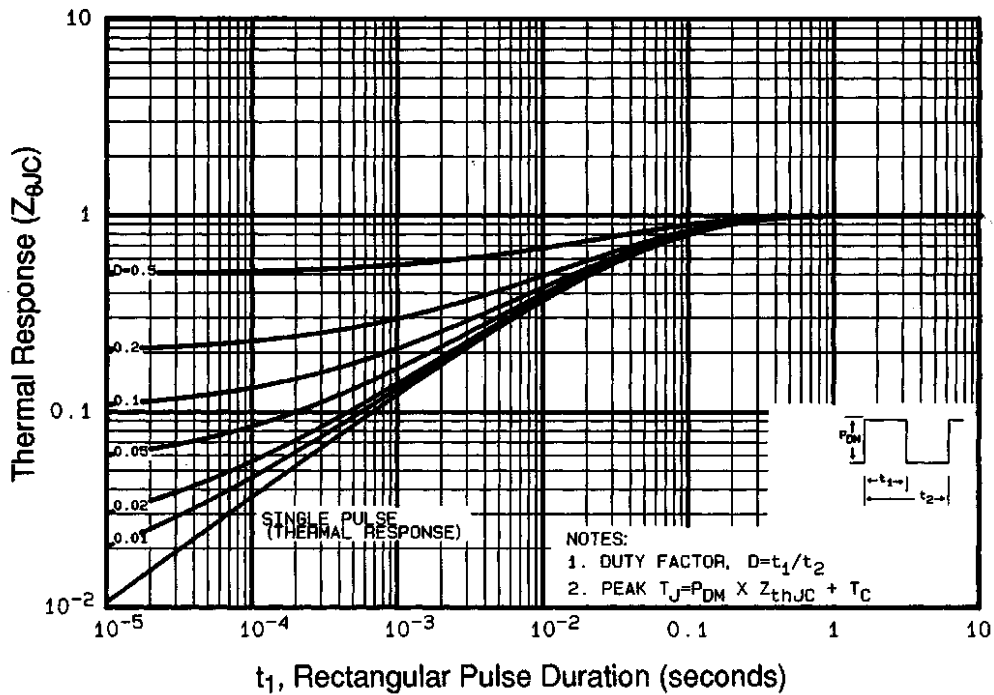

Fig 11. Maximum Effective Transient Thermal Impedance, Junction-to-Case
① Repetitive rating; pulse width limited by max. junction temperature (See Figure 11)
③ $I_{SD} \leq 8.0A, di/dt \leq 100A/\mu s, V_{DD} \leq V_{(BR)DSS}, T_J \leq 150^\circ\text{C}$
② $V_{DD}=50V$, starting $T_J=25^\circ\text{C}$, $L=5.9\text{mH}$